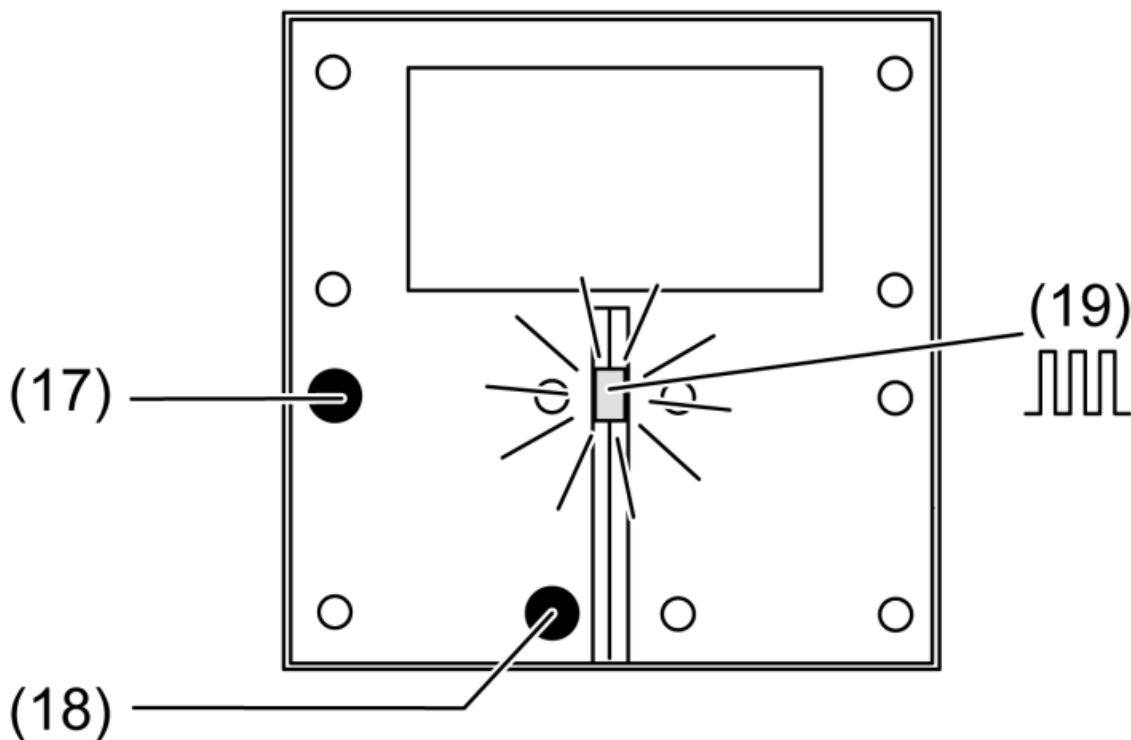

Figure 4: Activating programming mode
- Activate programming mode: Press and hold push button (17) (see Figure 4). Then press the push-button (18). The operation LED (19) flashes quickly.
- Programming the physical address. The operation LED (19) returns to its previous state – off, on, or flashing slowly.